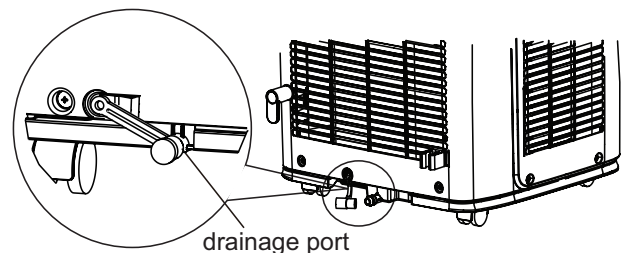

Fig.3
- (1)Remove the rubber plug at drainage port.(As show in Fig.3)